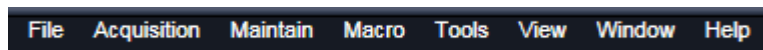

Fig. 5-1 Menu bar
- In the **Menu** bar (see Fig. 5-1), click on **Macro**.